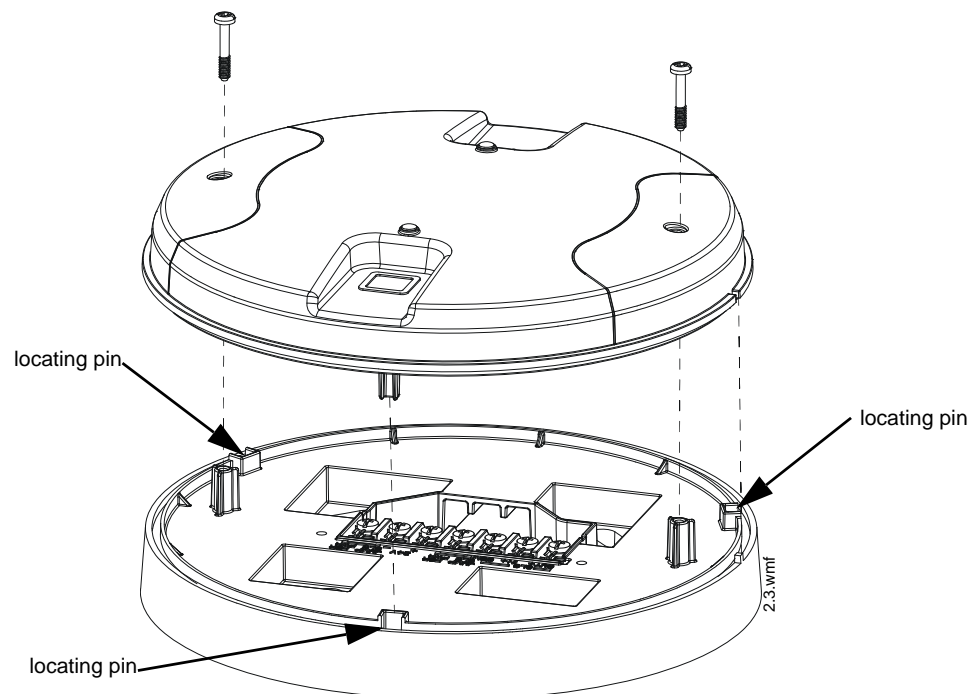

Figure 2.5 Attaching Cover to Mounting Plate
5. To mount the cover, align the locating pins on the cover to the corresponding slots in the mounting plate. See Figure 2.5.